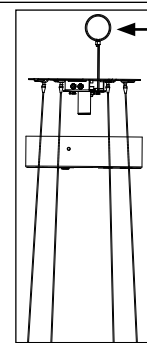

Figure 2: Security Cable
2. Steel safety wire fixed to the back of the mounting plate must be firmly secured to suitable structural building component. [Figure 2]